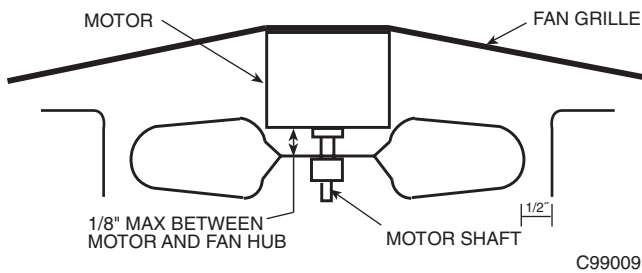

Fig. 12—Fan Blade Clearance
- c. Ensure fan hub is 1/8 in. maximum from motor housing (See Fig. 12).